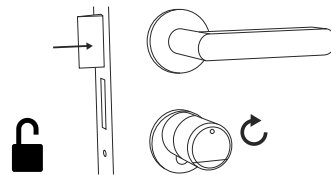
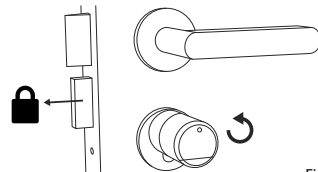

Fig. 9
Fig. 10
- 3 When the fingerprint entered is correct, the cylinder status symbol (🔒) will illuminate and the door can be unlocked (Fig. 9) or locked (Fig. 10).